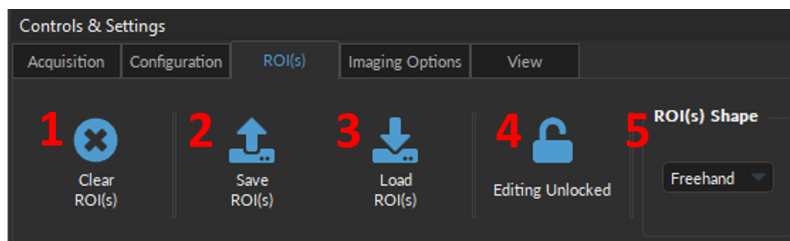

Figure 7.13: ROIs Tab
1. The **Clear ROI(s)** button (Fig. 7.13, 1) will delete all drawn regions of interest within the **Microscope View**. Note that unless the ROI(s) were previously saved, these ROI(s) cannot be recuperated.
2. The **Save ROI(s)** button (Fig. 7.13, 2) will save the region of interests drawn in the **Microscope View** in a .doric file, so that the identical ROI can be re-imported into the module at a later time. At least one ROI must be drawn for this feature to work.
3. The **Load ROI(s)** button (Fig. 7.13, 3) will import a previously saved .doric file. Note that this ROI(s) configuration can be edited, but must be re-saved in order for changes to be conserved.
4. The **Editing Unlocked** button (Fig. 7.13, 4) when enabled will prevent new ROI(s) from being drawn. However, it does not prevent moving or reshaping a selected ROI.
5. The **ROI(s) Shape** drop-down (Fig. 7.13, 5) sets the geometry of the ROI, which can be added at any point, even when not under the **ROI(s) tab** and in **Live** mode (but not when using **Record** mode). Four **ROI(s) Shapes** are available: *Freehand*, *Circle*, *Rectangle*, and *Square* (Fig. 7.14, 1-4). Multiple different shapes can be used within a single **Sensor View**.